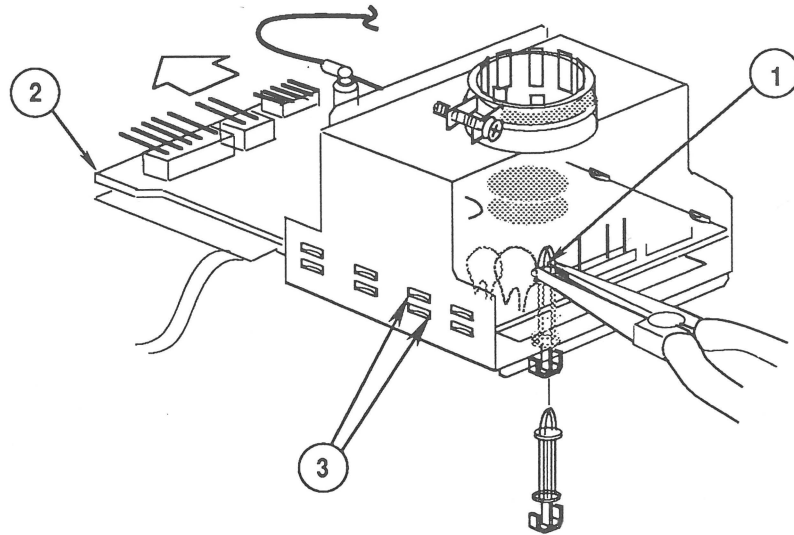

FIGURE 31
12. Using the needlenose pliers, remove the plastic standoff (Figure 31, #1) from the bottom of the metal cover. Keep the standoff and use it to install the replacement CRT board.
13. Slide the CRT board (Figure 31, #2) out of the metal cover. Keep the cover and install the replacement CRT board in it.
1. Slide the new CRT board (Figure 31, #2) into the metal cover as shown in Figure 31. The CRT board should be inserted between the six sets of paired tabs (Figure 31, #3) on the inside of the metal cover.
2. Replace the plastic standoff (Figure 31, #1) in the cover and CRT board.